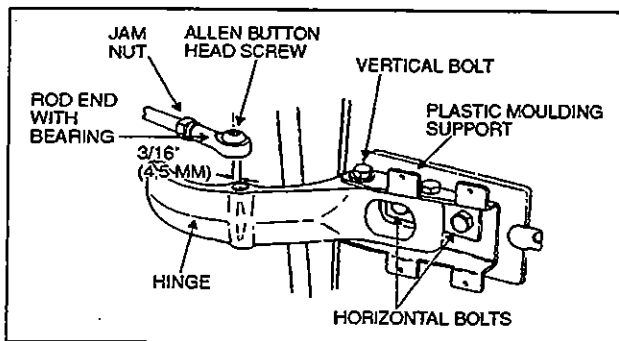

Figure 12
2. Remove the Allen button head screw and the washer retaining the rod end with bearing to the upper hinge. See figure 12.
3. Remove the Allen button head screw and the washer retaining the rod end with bearing to the upper hinge. See figure 12.
3. Remove the Allen button head screw and the washer retaining the rod end with bearing to upper hinge. See figure 12.